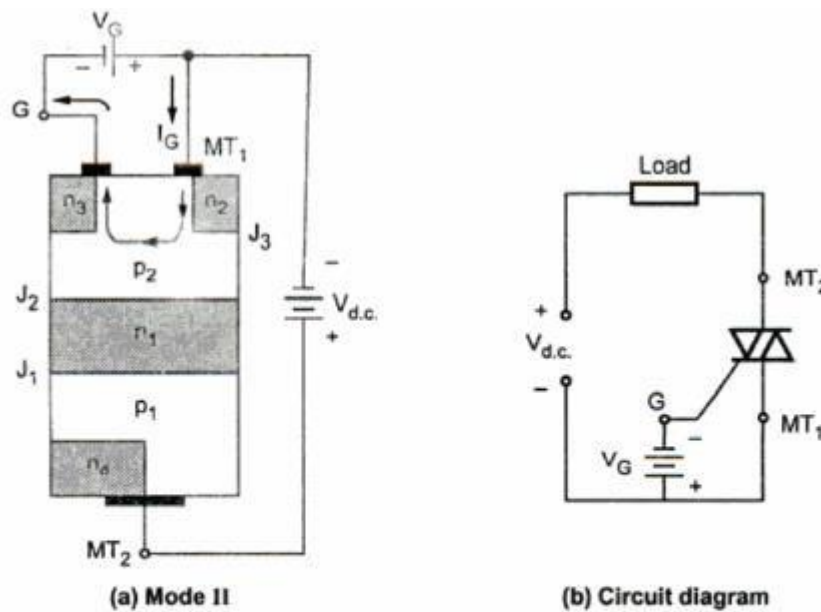

Fig. 4.37
**2. Mode II :** In this mode, triac is forward biased and gate is made negative with respect to  $MT_1$ . This is shown in the Fig. 4.37 (a).